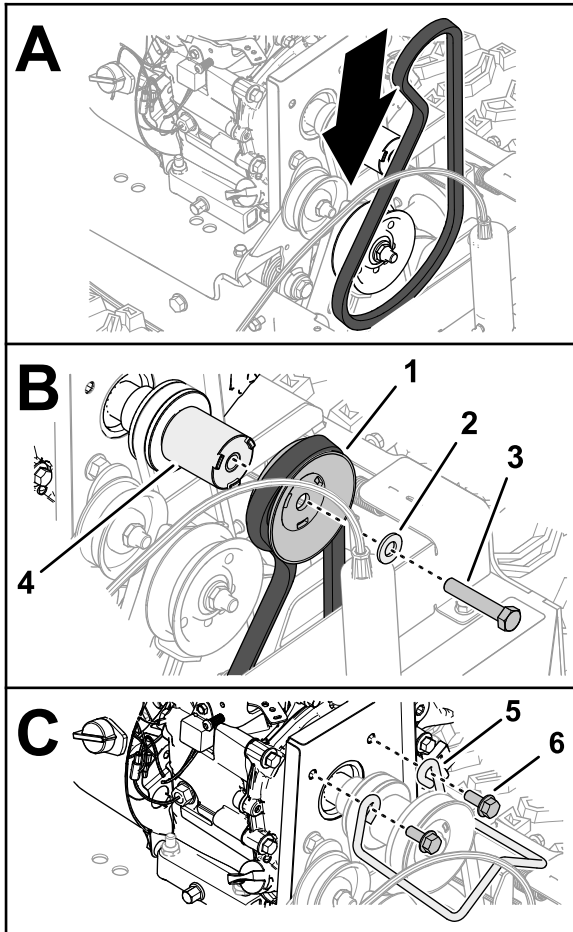

Figure 45
2. Assemble the belt 96 cm (37-1/4 inch) into the groove of the driveshaft pulley (Figure 45).
3. Assemble the belt into the groove of the broom-drive pulley (Figure 45).
4. Assemble the broom-drive pulley onto the pulley spacer (Figure 45).
5. Secure the pulley and spacer to the driveshaft (Figure 45) with the capscrew (3/8 x 2 inches).
7. Assemble the belt guide to the engine with the 2 flange capscrew (Figure 45).